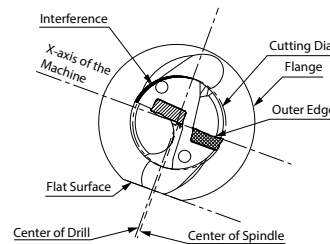

Fig.4 Excessive Offset (For Smaller Hole Diameter)
1. Align the drill with the outer insert face parallel to the X-axis of the tool turret. (Fig.4)
Be sure not to make the hole diameter smaller than the drill diameter by more than 0.2mm (0.008"). Otherwise, the toolholder will interfere with the drilled hole. (Fig.4)